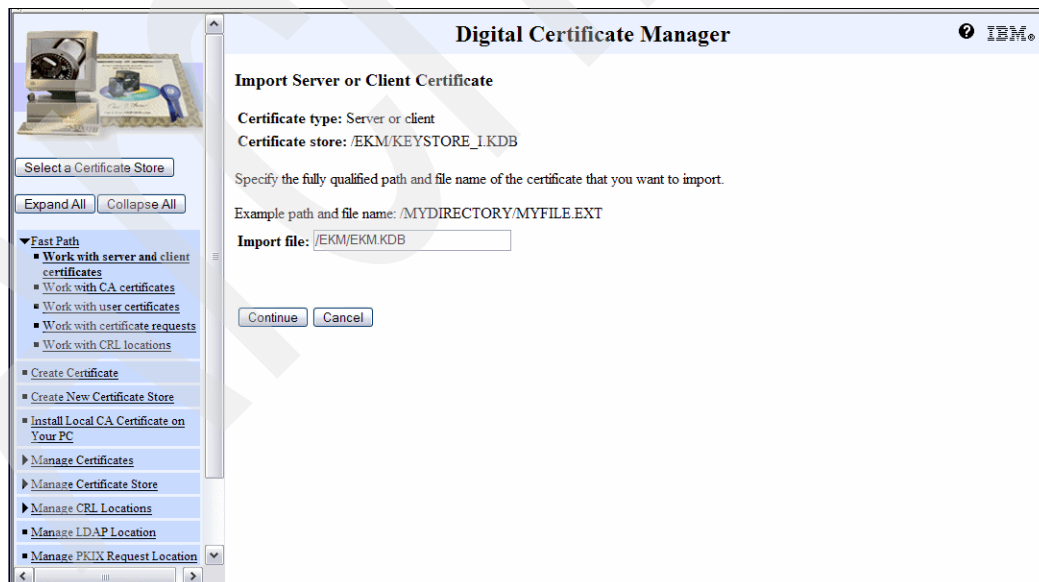

Figure 6-55 Importing the file
2. Enter the complete IFS path name of the file in which you pasted the signed certificate data and click **Continue**, as shown in Figure 6-55.